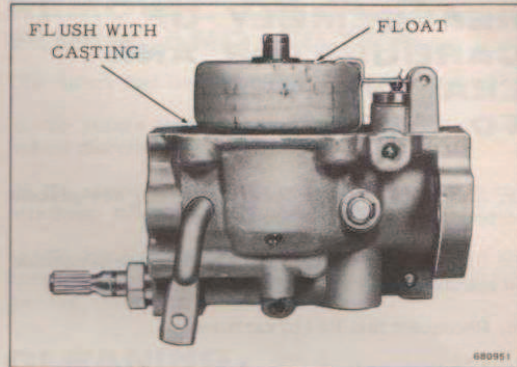

Figure 3-14. Float Level Adjustment
- c. To check position of float, turn carburetor body upside down, so that weight of the float closes float needle. Float should be parallel and flush with face of casting. See Figure 3-14.